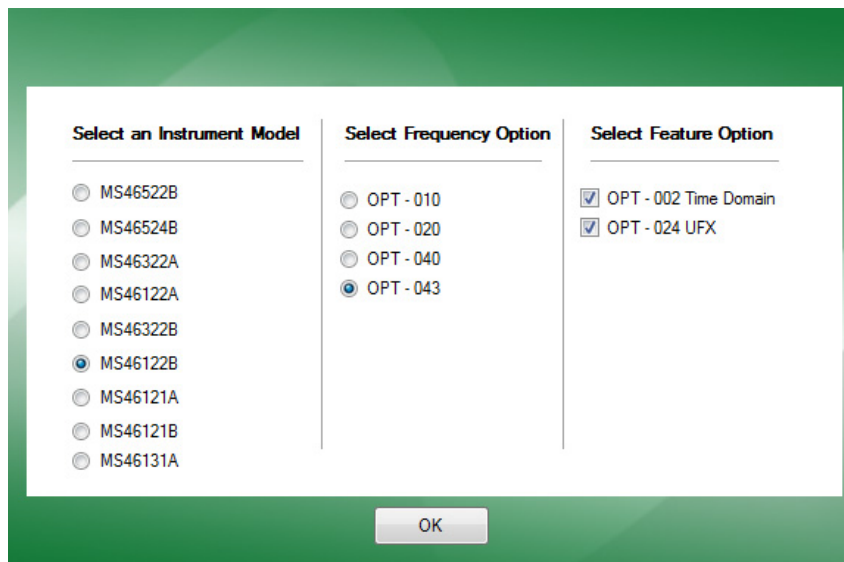

Figure 3-7. Simulator Select Instrument
- Once Simulation Mode is selected, the default menu screen appears, see Figure 3-7.